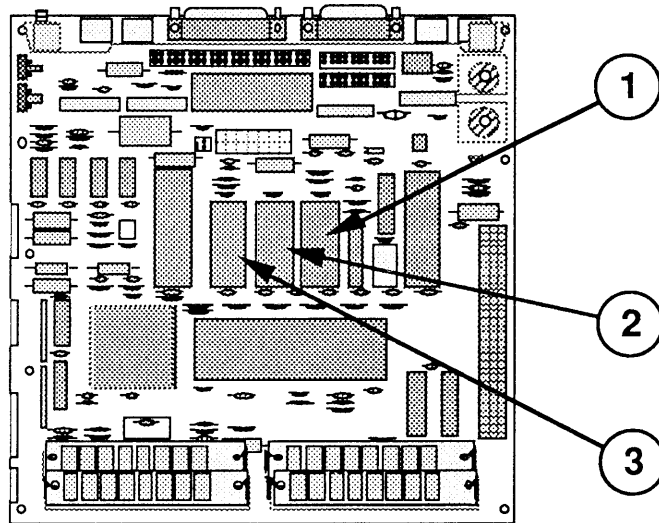

FIGURE 18
2. Identify the customer's disk controller chip (Figure 18, #1):
- SWIM (Figure 18, #1)
- Low ROM (Figure 18, #2)
- Hi ROM (Figure 18, #3)